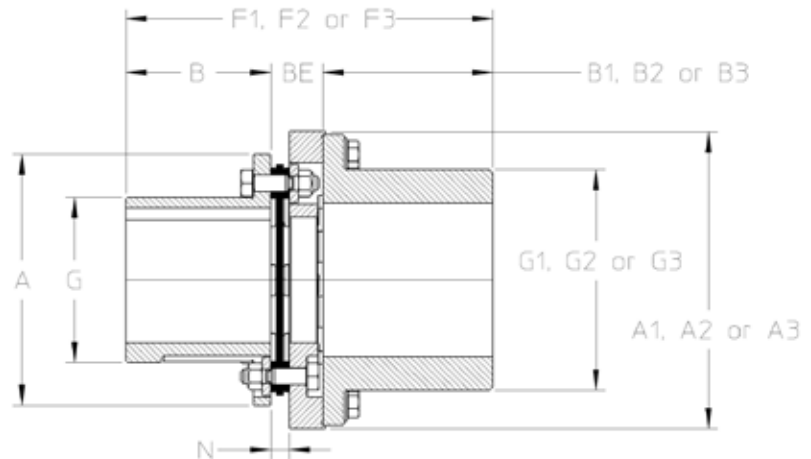

Figure 10 – XTSTRS Oversize Hub
- 10.2. Verify that the hubs have been mounted to provide the correct "BE" dimension shown in Figure 10 and defined in Table 3. The "BE" dimension is the distance measured between the faces of the two hub flanges. Do not set the DBSE to the 'N' dimension if an oversize hub is utilized.